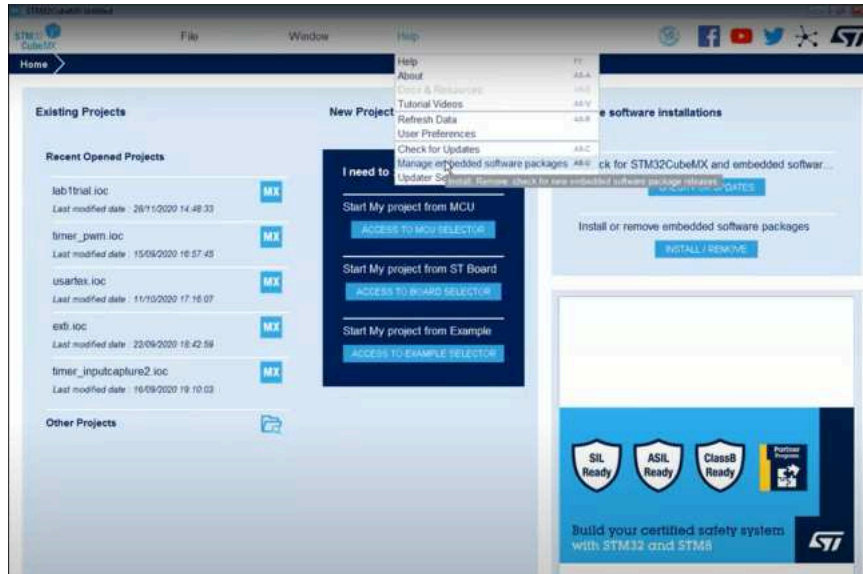

Figure 2
1. First, open the CubeMx program. Select “Manage embedded software packages” from the ‘Help’ menu (Figure 2).